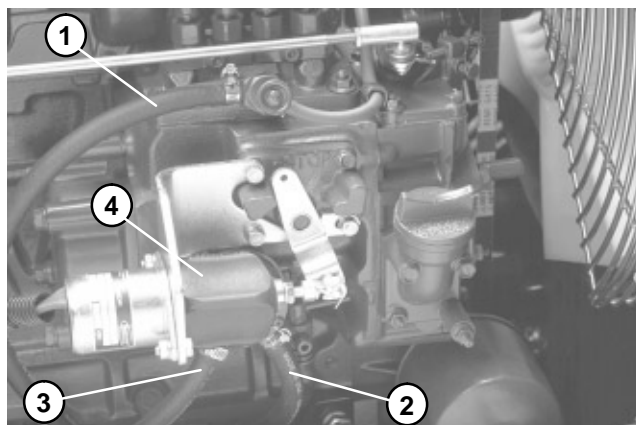

Figure 22
- A. Suction hose at the injector pump from the fuel filter. Suction and discharge hoses at the fuel pump (Fig. 22).
- B. Disconnect electrical connector from the fuel solenoid (Fig. 22).
B. Connect electrical connector to the fuel solenoid (Fig. 22).
A. Suction hose at the injector pump from the fuel filter. Suction and discharge hoses at the fuel pump (Fig. 22).